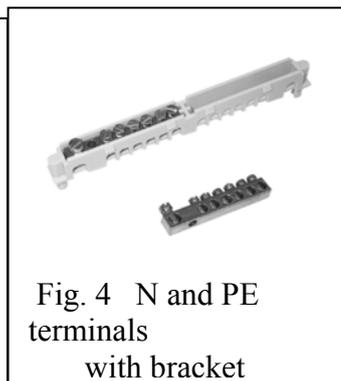

Fig. 4 N and PE terminals with bracket
Interior switch boxes are manufactured as devices mounted on or under the wall plaster, with full door (FO) or transparent door (PT)- Fig. 1. They can be installed both in newly constructed buildings and in old buildings, where electric wiring is modernized. They are adapted mostly in apartments buildings, family houses and in commercial facilities. Switch boxes are available in one row version up to three row version. In every row there is the place for 12+1 standard- modules with the width 17,5 mm. They are intended for the assembly of the standard- modular equipment. Switch boxes series CT and CM have great interest everywhere, the quality and aesthetics of works is important. Thanks to the modern style and design, they are in tune with the inside decorations of every kind of the interior. They have original casing shape with round edges and decorated with moldings doors. The construction of switch boxes makes possible the door opening on left or the right side with angle of 180°. Casing is made from self-extinguishing material ABS, with very good mechanical properties and big resistivity. They are available in the white color - RAL 9010. Complete set is provided with clamps {connectors} N and PE - Fig. 4, which can be installed in upper or the lower part of the switch box. All switch boxes have high fire and flame resistance (respectively in 650°C and 850°C temperatures according to PN-IEC 60695-2-1 norm), they have isolations class II, cover protection degree IP40 and the protection degree against mechanical shocks IK 08. They comply also with requirements of many European and Polish norms, e.g. PN-IEC 439-3, IEC 670 and EN 60439-3.